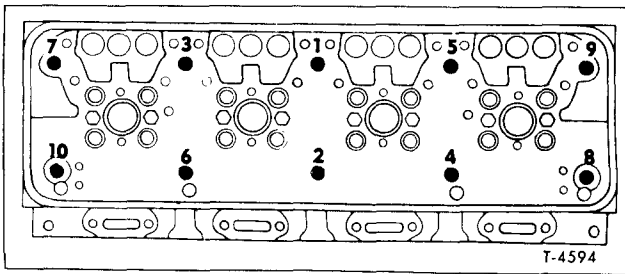

Figure 25—Cylinder Head Bolt Tightening Sequence
6. Tighten cylinder head bolts and stud nuts about one-half turn in sequence shown in figure 25. Use torque wrench for final tightening of cylinder head bolts and nuts. Correct torque is 190 to 200 foot-pounds. Do not tighten beyond the specified torque.